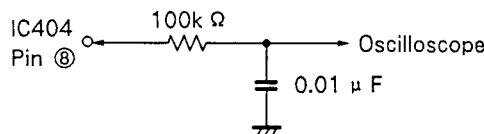

Fig. 7-7. L.P.F for Eliminating Noise
- Connect a frequency counter to Pin ⑦ of IC10 (PM2001) and adjust VC1 so that the frequency is  $3.579545 \pm 5\text{Hz}$ .
- Turn ON the power switch and without starting play, adjust VR402 so that the voltage at Pin ⑧ of IC404 (NJM4558S) is DC 0V.
- Note: If the DC voltage cannot be confirmed due to noise, connect the LPF shown in Fig. 7-7 for observation.